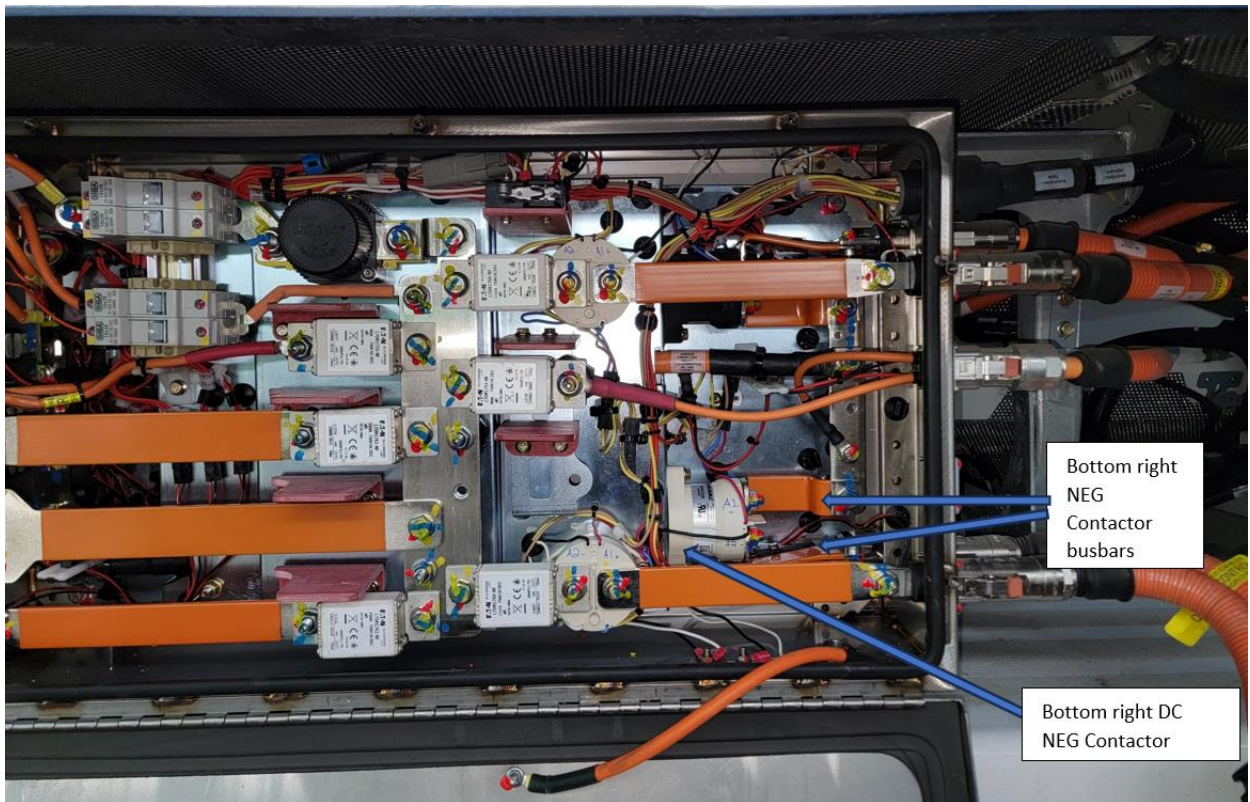

Fig 2: Rear HV Fuse Box
7. Locate the Negative Contactor at the bottom right of the rear inverter rack as marked in fig. 2 below.